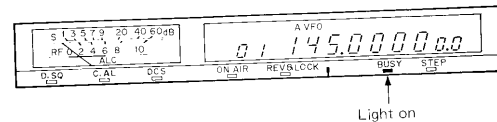

Fig. 18 Meter and display section (TS-711A/E)
- 6) Meter and display section should be set as follows **Fig. 18 or 19**.